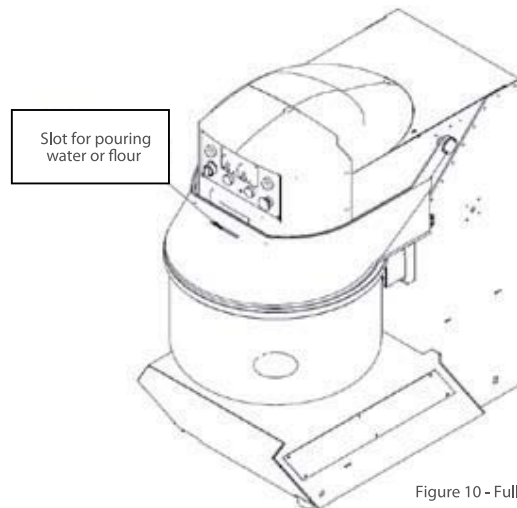

Figure 10 - Full (solid) covers with slot for pouring ingredients
10. If you need to add liquid ingredients during the kneading cycle you can do so through the appropriate slot on the solid cover (see Figure 10).